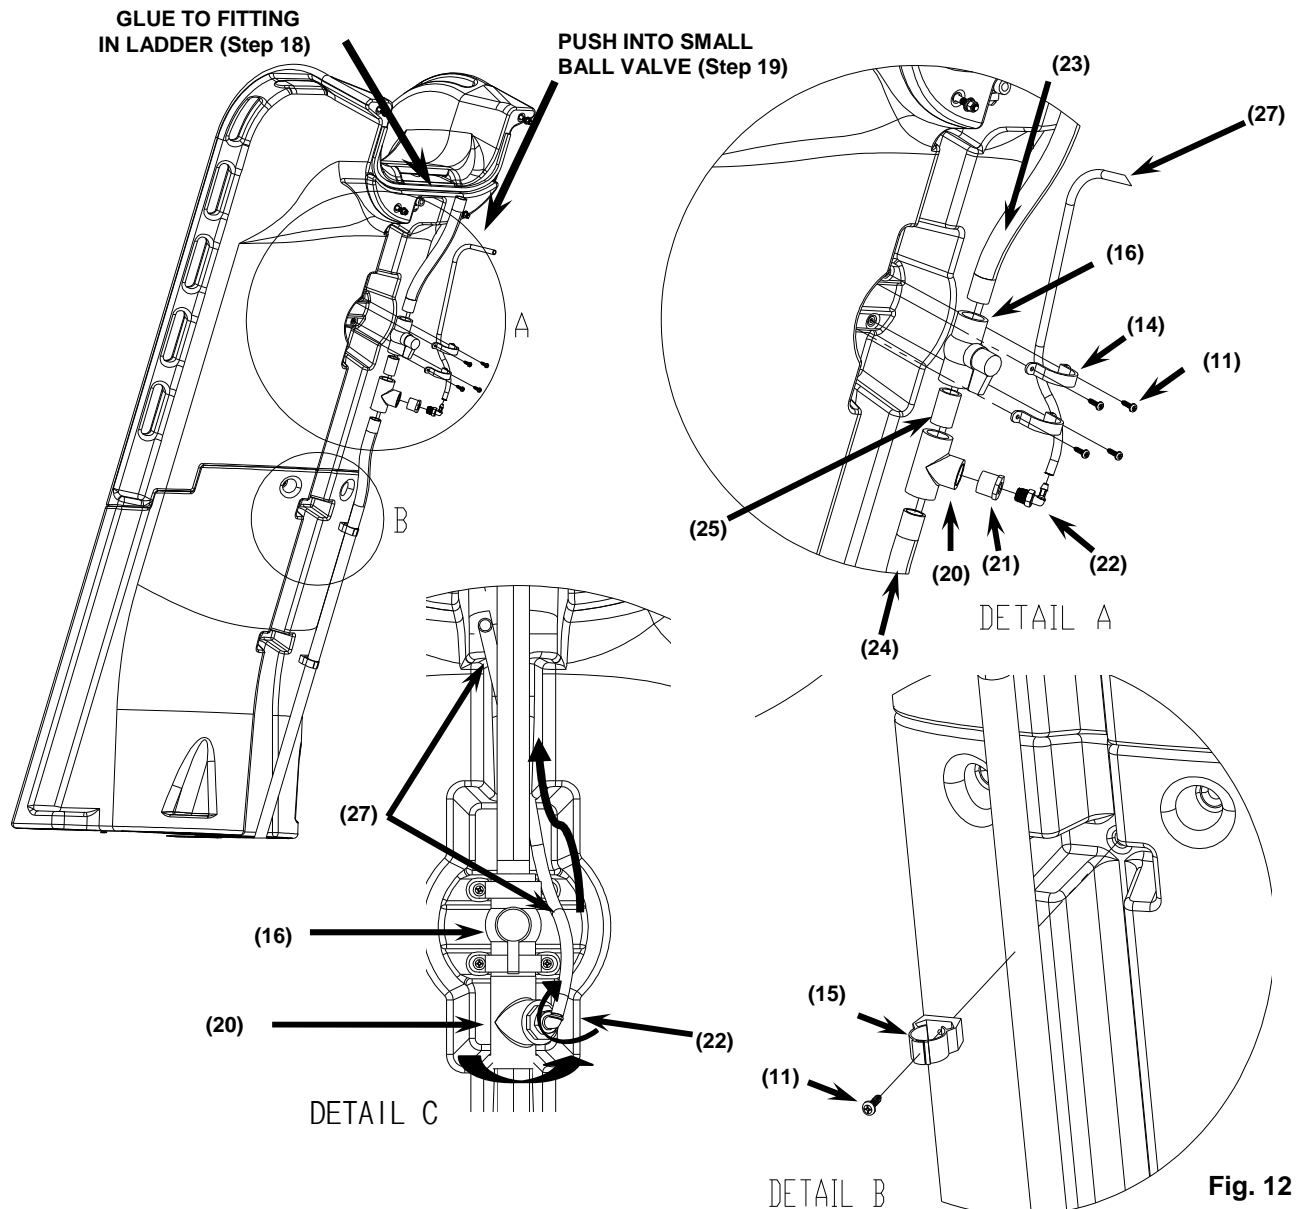
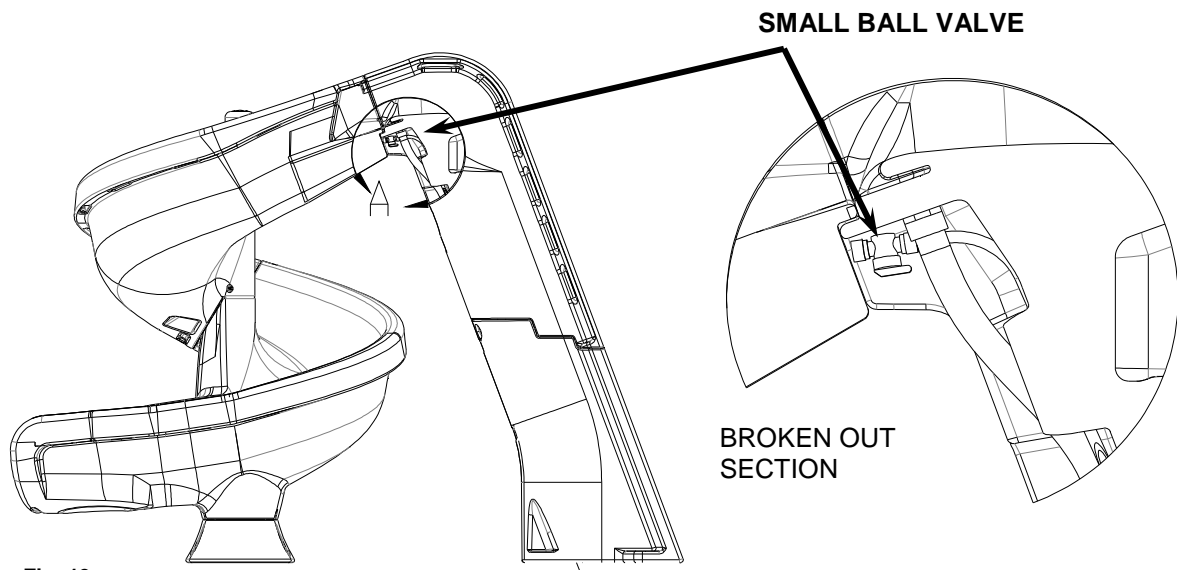

Fig. 12
Fig. 13
- 13) Attach the two 1" Pipe Clamps (15) with the #14 Pan Head Screws (11) as shown in Figure 12, Detail B. in the recessed area under the slide ladder.
- 14) Fully assemble the water system components as shown in Figure 12 Detail A without glue to ensure that all components have the correct fit and function before permanently gluing them together.
- a. The PVC 1" Slip Pipe "T" Fitting, Female (20) located directly below the 1" Ball Valve (16) must be slightly rotated to the right with respect to the handle of the 1" Ball Valve (16), as shown in Figure 12 Detail C.
- b. With the plumbing assembled as shown in Figure 12 Detail C, ensure that the 1/2" Polypropylene Tubing (27) is routed behind the 1" PVC Flex Hose (23) in the recessed area of the ladder and does not interfere with movement of the handle on the 1" Ball Valve (16).
- c. With the components oriented in the correct position, make reference marks on the 1" Ball Valve (16), 1" PVC Slip Pipe "T" Fitting, Female (20) and 1" PVC Pipe 2" long (25) to ensure correct orientation before gluing.
- d. When attaching the assembled components with 1.5" Pipe Strap (14) to the slide ensure that the 1/2" Polypropylene Tubing (27) is routed behind 1" PVC Flex Hose (23).
- 16) Use PVC primer and glue to permanently assemble the parts together as described in Step 14 and shown in Figure 12. Ensure that The 1" PVC Slip Pipe "T" Fitting, Female (20), 1"
17) Use plumbers tape (Teflon tape) when permanently assembling the 3/8" to 1/2" barbed 90° elbow fitting (22) to the 1" PVC Slip Reducer to 1/2" Threaded Female (21).
18) Glue the top end of the 1" PVC Flex Hose 16" long (23) into the fitting in the ladder.
19) Route the 1/2" Polypropylene Tubing (27) behind the 1" PVC Flex Hose 16" long (23) as shown in Figure 12 Detail C. Connect the 1/2" Polypropylene Tubing (27) to the small ball valve attached to the top runway section by pushing the 1/2" Polypropylene Tubing (27) into the end of the ball valve firmly as far as it will go. See Figure 13.
20) Secure the assemblies to the recessed area under the slide ladder by attaching the 1.5" PVC Pipe Straps (14) with the #14 Pan Head Screws (11). See Figure 12 Detail A..
21) Secure the 1" PVC Flex Hose 68" long (24) in the hose recess under the ladder using the 1" pipe Clamp (15) firmly pushing the 1" PVC Flex Hose 68" (24) into the 1" pipe Clamp (15).
4. The helix™ can handle up to 20 gallons per minute. Water flow to the main water supply is to be regulated using the ball valve (16) near the center of the ladder. The fountain feature can be regulated via the small ball valve just under the top of the ladder. Figure 13 shows the location of the small ball valve.